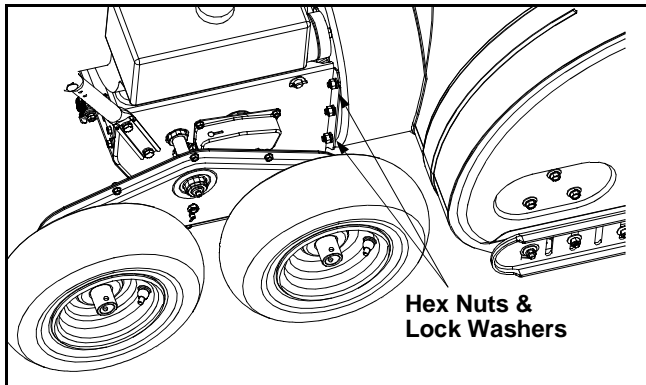

Figure 14
- Remove the three hex nuts and lock washers which attach the auger housing assembly to the frame assembly on each side. See Figure 14.
- From the frame assembly side, insert the six lock washers and hex nuts previously removed onto the studs. Tighten nuts securely. See Figure 14.